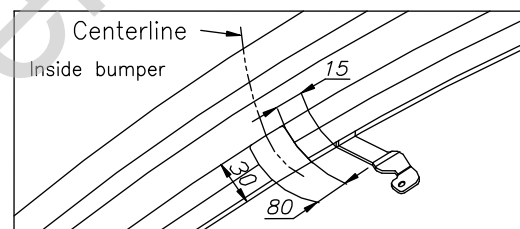

Fig. 2. Bumper cut out
1. Cut out the lower fragment of the bumper, as shown on the fig. 2.
2. Put main bar of the towbar to the car frame in that way so holes (pos. A) be covered with holes in frame and fix using bolts M10x1,25x30 mm (pos. 11) - fix loosely.